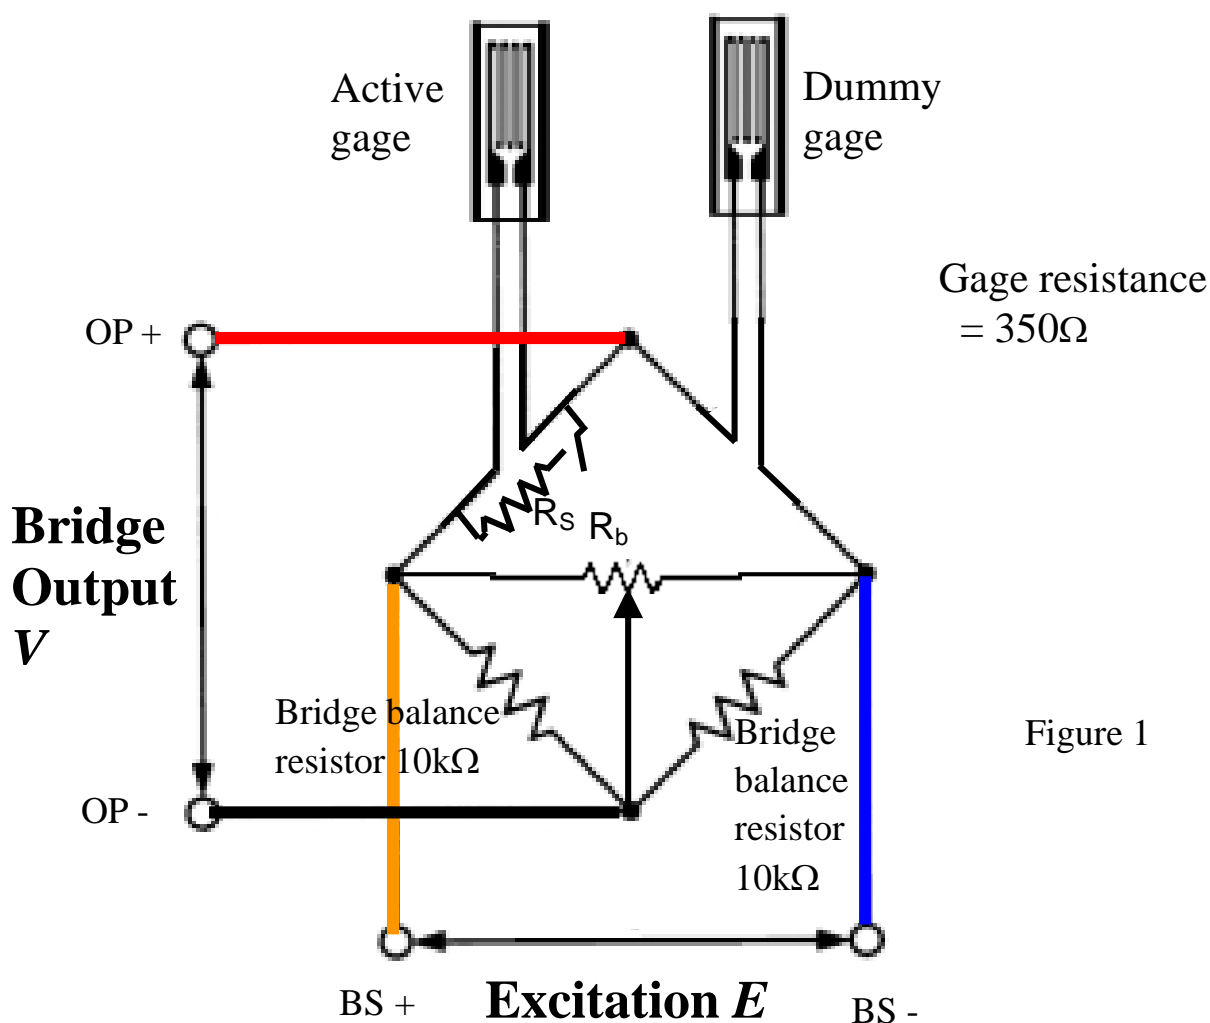
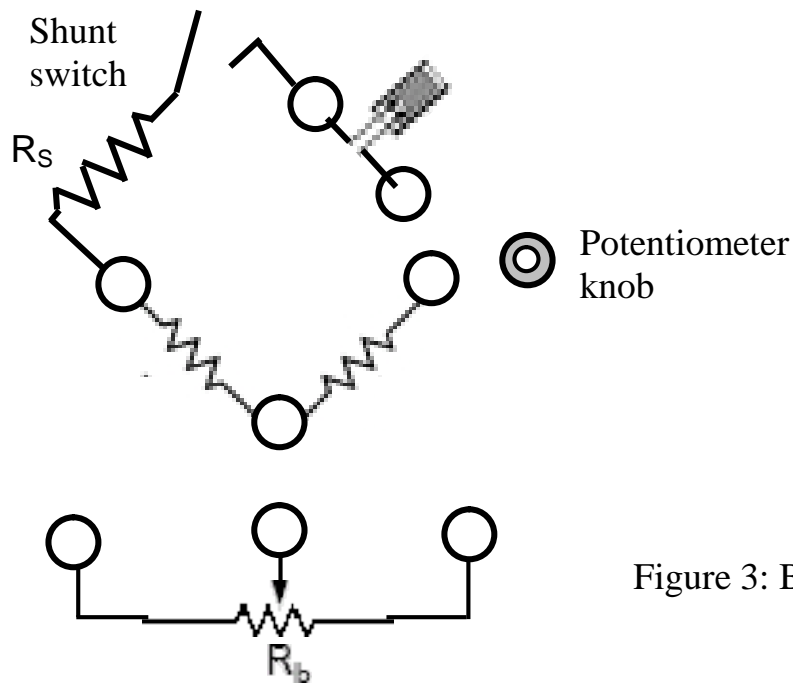
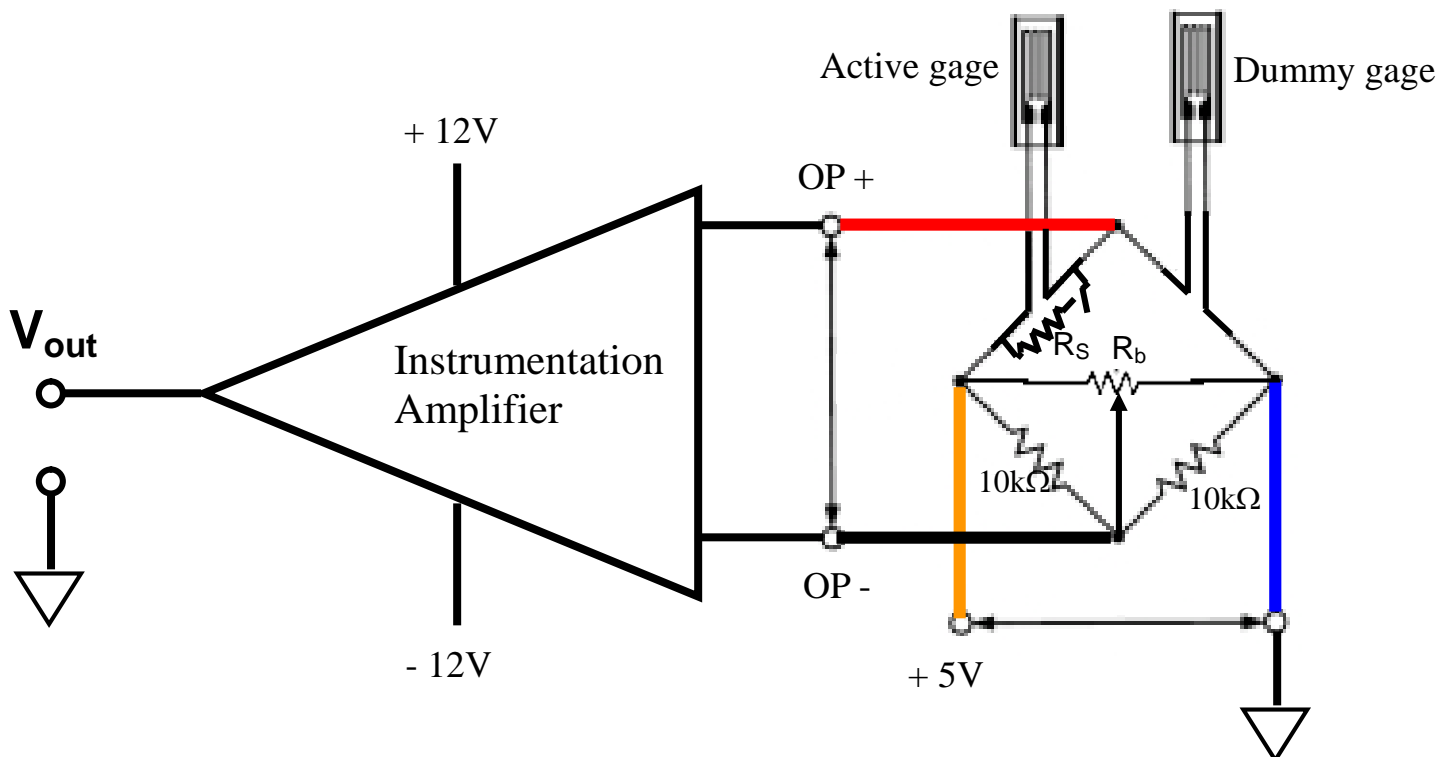

Figure 1
Figure 3: Bridge completion box layout.
Figure 4: Circuit for strain read out.
4. What is the use of  $R_b$  in the bridge circuit in Figure 1? Please briefly explain the underlying principle.
5. What is the use of  $R_s$  in the bridge circuit in Figure 1? Please briefly explain the underlying principle.
1. The gage you just stuck is the active gage. A dummy gage, two bridge balance resistors,  $R_b$  and  $R_s$  are provided in a bridge completion box. Layout of the box is shown in figure 3. Use these to build up the Wheatstone bridge as shown in figure 1 and connect the bridge outputs to your instrumentation amplifier (IA) inputs as in fig.4 . Use Channel 3 of the power supply for bridge excitation. Remember to connect the ground of Channel 3 to the ground of the IA